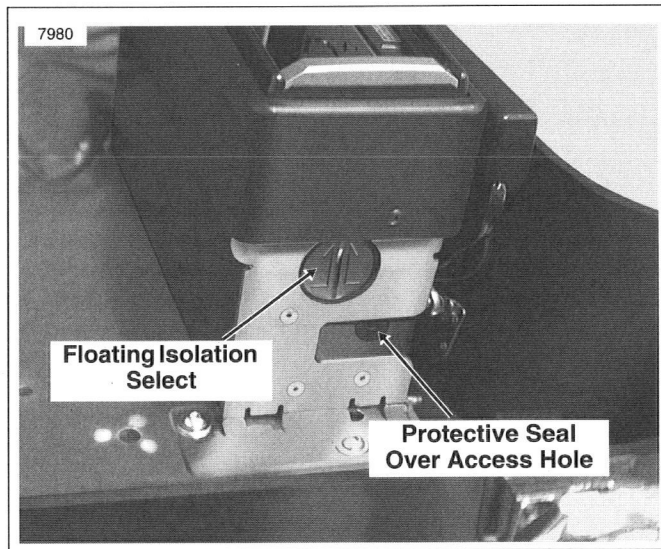

Figure 57. CD Changer Compulsory Eject Hole
The CD Changer is mounted to absorb normal vibration when riding. There are two floating isolation selectors at each end of the CD Changer and are factory set. Both selector switches should be set to the 12 o'clock position, as shown in Figure 57.
- See Figure 57. Peel off the protective seal over the compulsory eject hole.
See Figure 57. Do not change the 12 o'clock position of the Floating Isolation Select Switch on the CD Changer. The switch setting is preset at the factory